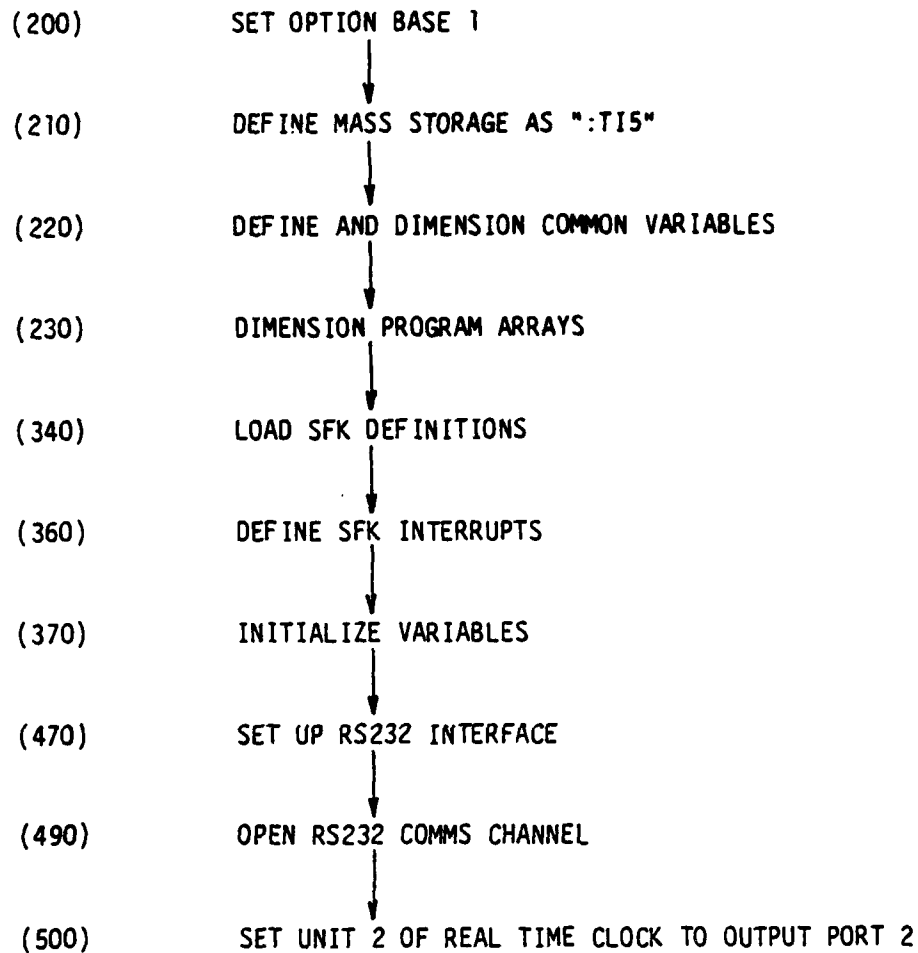

FIGURE 4-3. INITIALIZATION
4.1.1.1 Initialization (See figure 4-3)